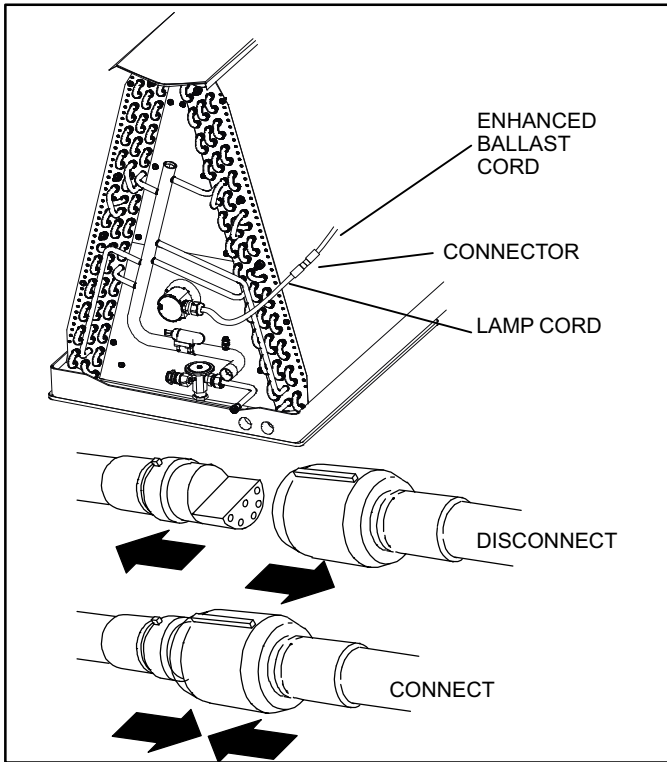

Figure 1. Disconnect/Connect Lamp Cord
2. Disconnect the lamp cord as shown in figure 1.
8. Connect the lamp holder cord's quick connect to the mating enhanced ballast connector (see figure 1).